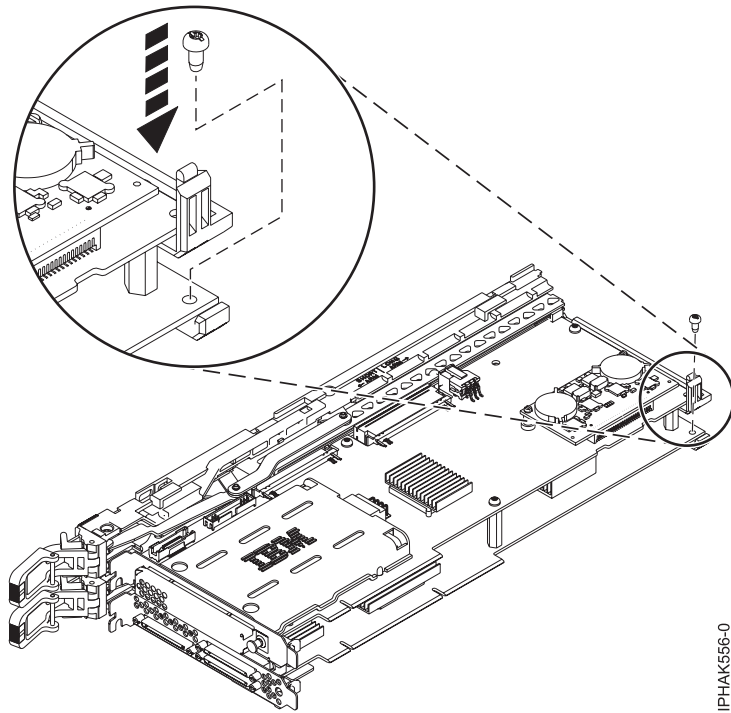

Figure 57. Securing the lower, rear arm of the cassette assembly
- Secure the lower, rear arm of the cassette assembly to the rear end of the double-wide adapter using the small screw. See Figure 57.